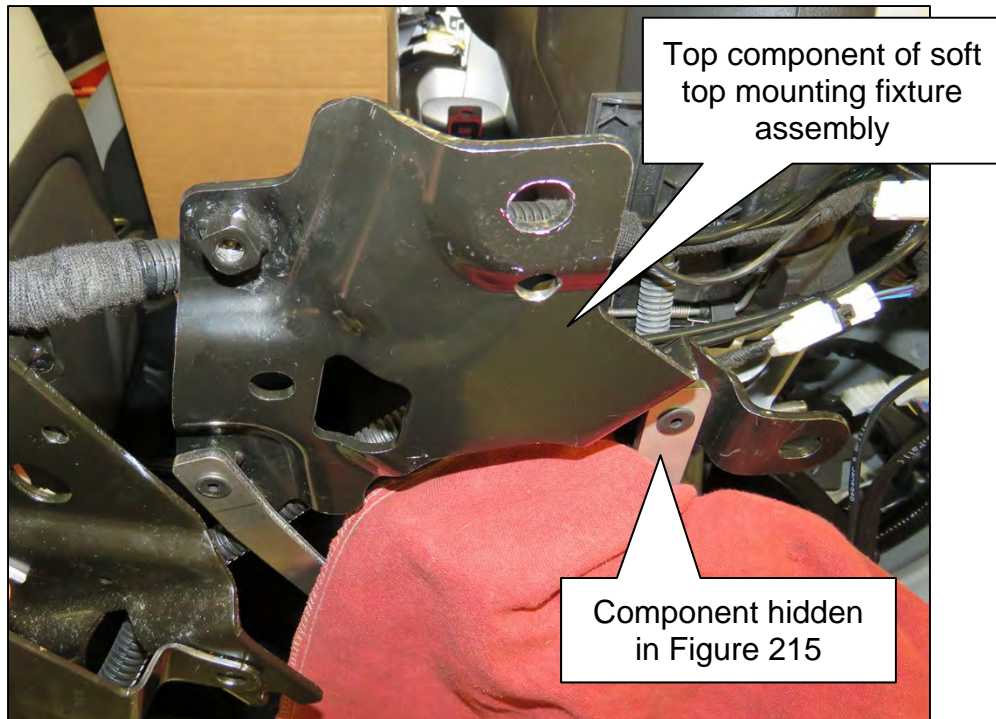

Figure 216
- One (1) of the two (2) soft top mounting fixture struts is hidden in Figure 215. See Figure 216 on page 92 for hidden fixture strut.